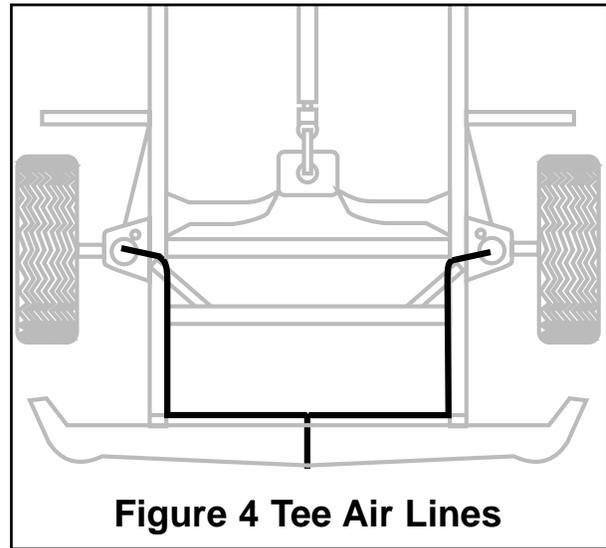

Figure 4 Tee Air Lines
- A. Find desired tee location on the frame rail or radiator core support bracket (Figure 4).